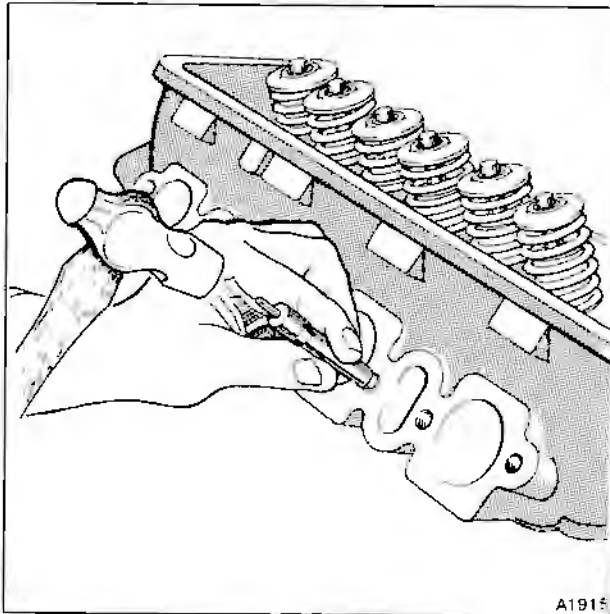

Fig. A7-3 Heli-coil tang 'break-off' tool
9. Fit the special tang break off tool (punch) into the insert as shown in figure A7-3.